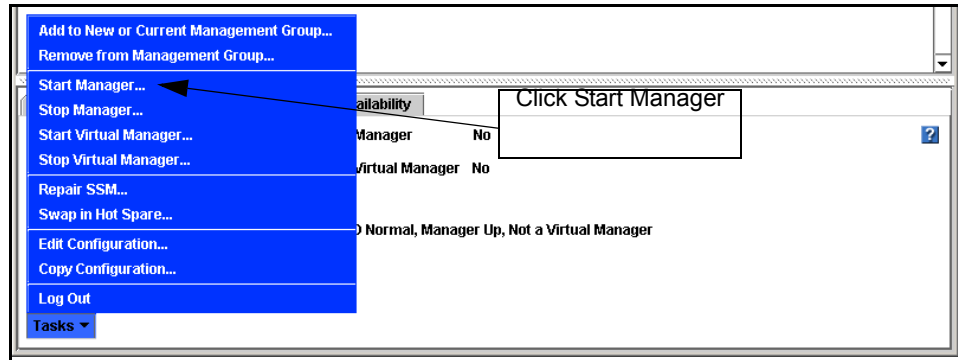

Figure 132. Starting a Manager
2. On the Management Group Information tab, select the Tasks menu and click Start Manager, as shown in Figure 132.